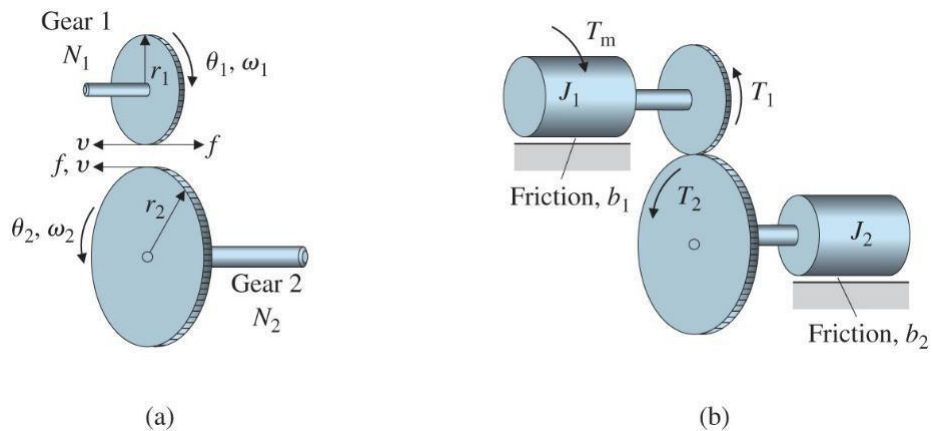

Fig. 2.35 (a) geometry definitions and forces on teeth (b) definitions for the dynamic analysis.
- (a) Solution: First, let's consider the problem for the case along the lines of the development in Section 2.3.3. That is, a system where the torque is applied by a motor on a gear that is simply accelerating an attached gear, like the picture in Fig. 2.35(b). This basically is assuming that the robot has no mass; but we'll come back to that. In order to multiply the torque by a factor of 2, the motor must have a gear that is half the size of the gear attached to the wheel, i.e., $n = 2$ in Eq. (2.78). For simplicity, let's also assume there is no damping on the motor shaft or the wheel shaft, so b_1 and b_2 are both = 0. If the wheel was not attached to the robot, Eq. (2.78) yields
22. Using Fig. 2.35, derive the transfer function between the applied torque, T_m , and the output, θ_2 ; for the case when there is a spring attached to the output load. That is, there is a torque applied to the output load, T_s ; where $T_s = K_s \theta_2$